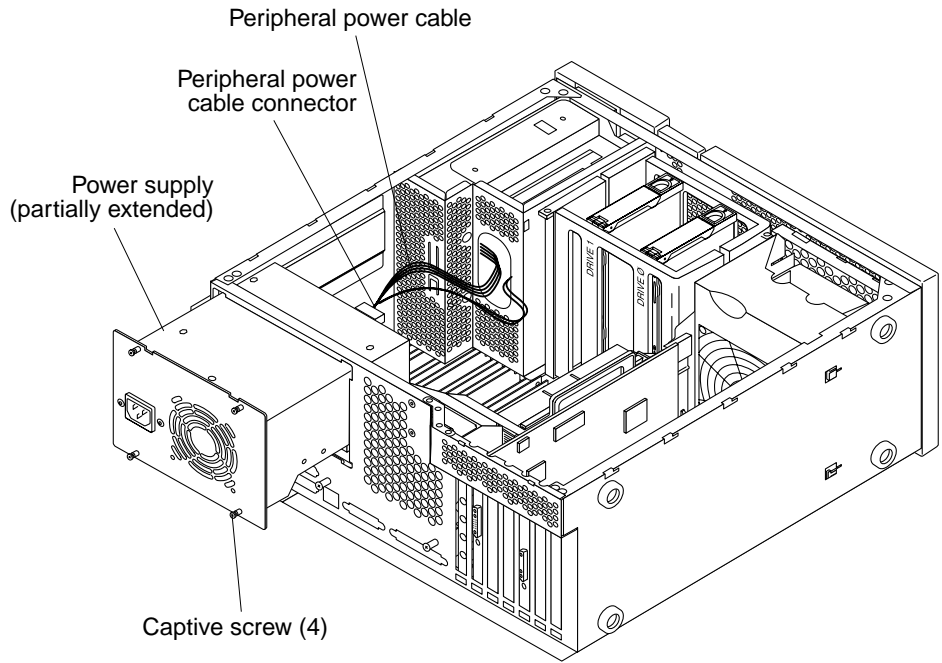
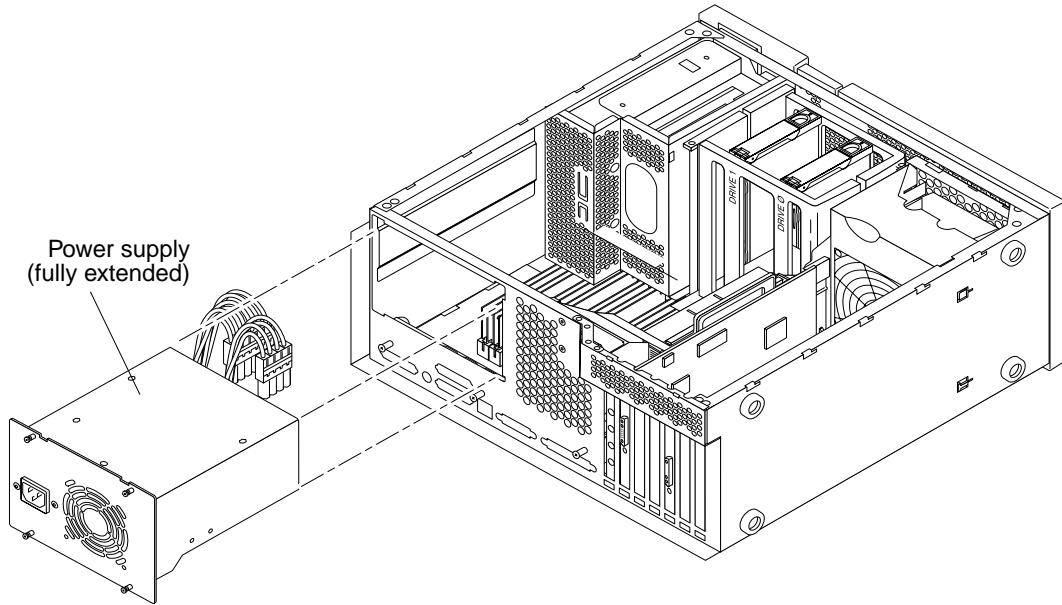

FIGURE 8-1 Removing and Replacing the Power Supply (Part 1 of 2)
FIGURE 8-2 Removing and Replacing the Power Supply (Part 2 of 2)
4. Remove the power supply as follows (FIGURE 8-1 and FIGURE 8-2):
1. **Replace the power supply as follows (FIGURE 8-1 and FIGURE 8-2):**